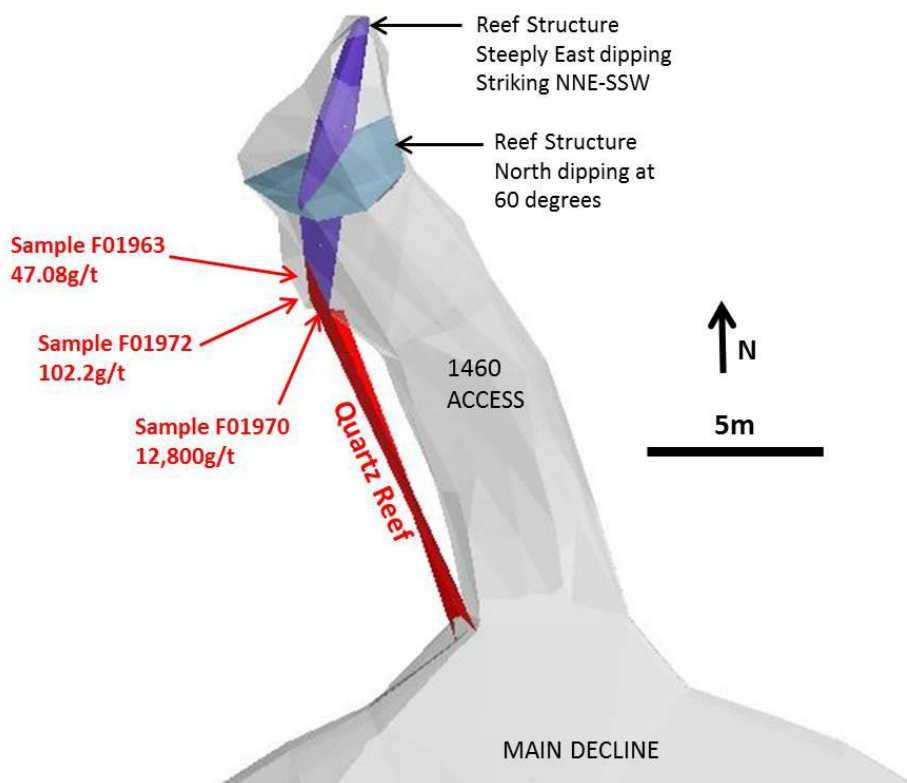

Figure 2. Screen Capture Plan View 1460 Level Access Drive
- (1) All samples are located at the northern end of the 1460 Level Access illustrated in Figure 2.
- (2) The channel sample length of 1.3 metres has been sampled along a 40 millimeter thick vein to obtain sufficient sample for representative analysis. The true width of this sample is 0.04 metres.
- (3) Refer to AYC ASX Announcement dated 6 May 2015.